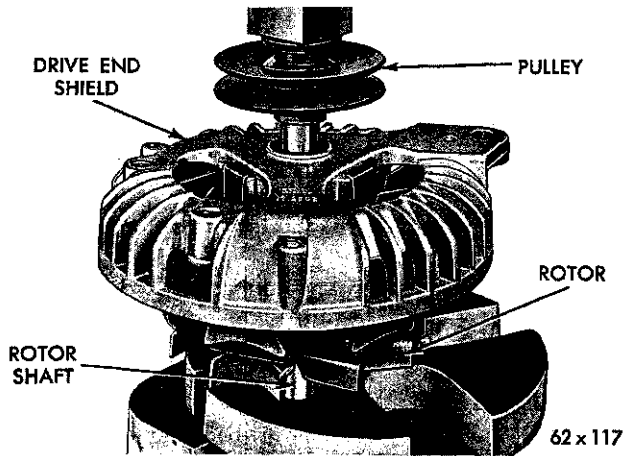

Fig. 36—Installing the Alternator Pulley
(8) Install the pulley on the rotor shaft. The shaft of the rotor must be supported in a manner so that all pressing force is on the pulley hub and motor shaft (Fig. 36).